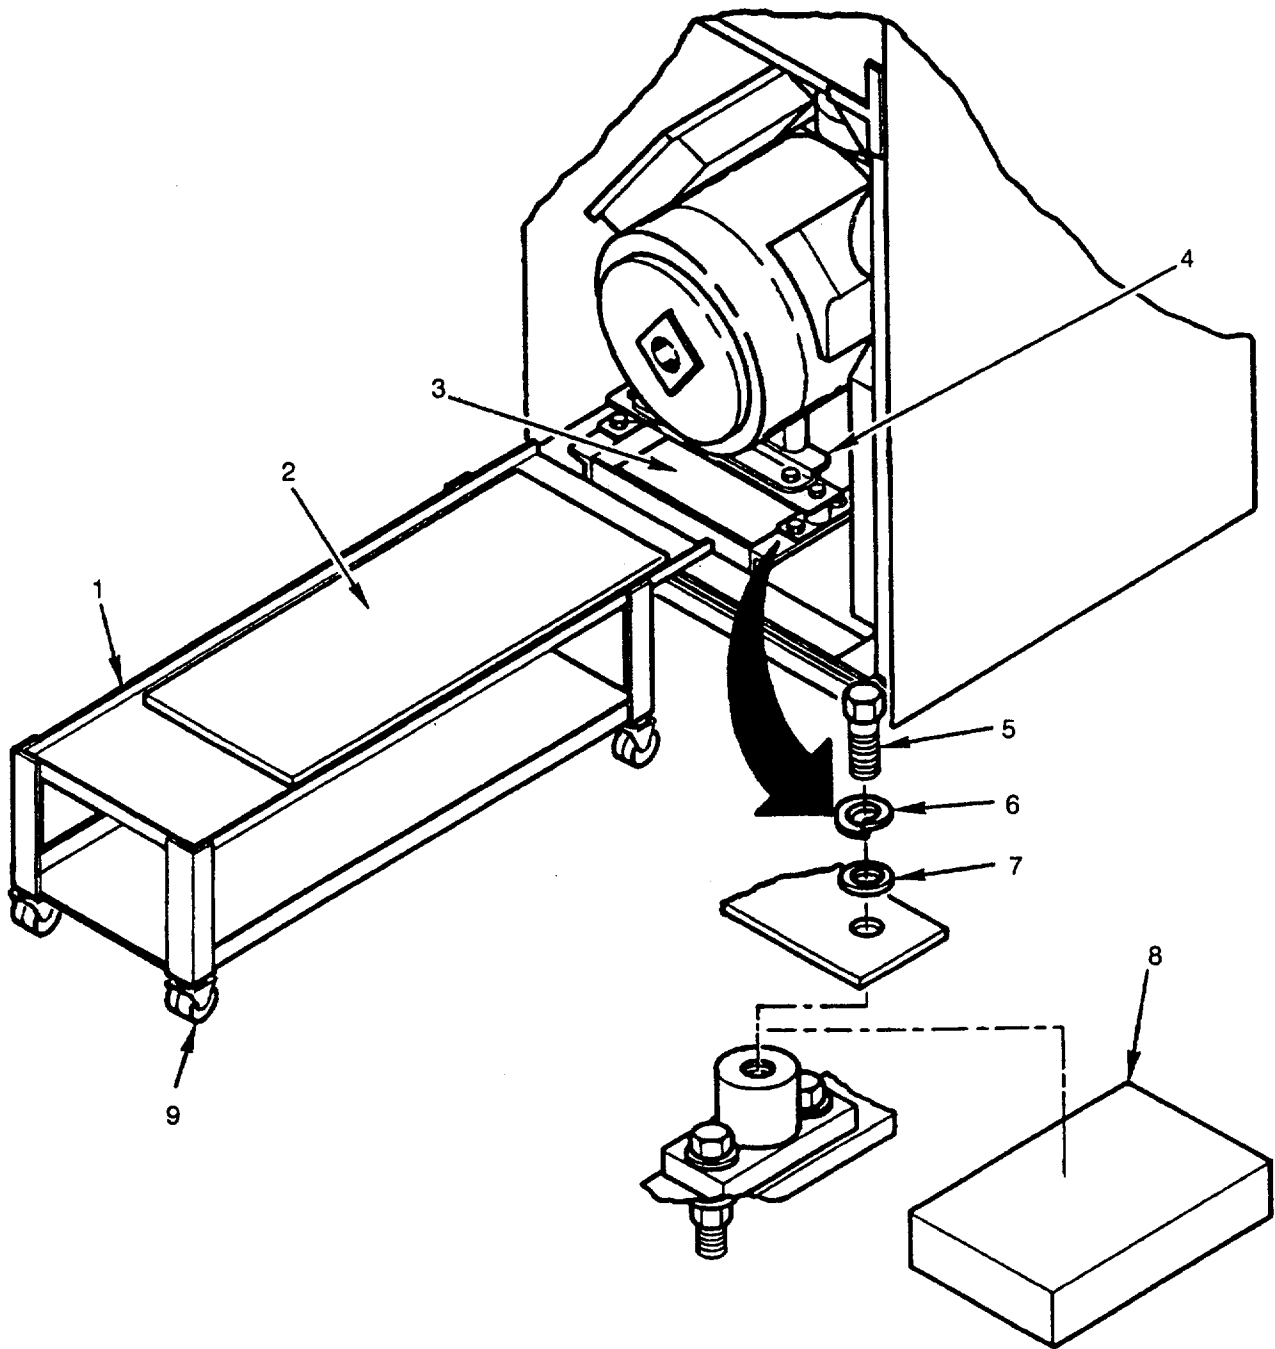

Figure. 5-36. Compressor
9. Remove two rear mounting bolts (5), lockwasher (6), and flat washer (7) (see Figure 5-36).
10. Loosen two front mounting bolts (5).
11. Raise rear of compressor (4).
12. Between compressor and mounting frame, place 3/4 inch shims (8) on both sides.
13. Remove two front mounting bolts (5), lockwashers (6), and flat washers (7).
14. Carefully raise front of compressor (4).
15. Between compressor and mounting frame, place 3/4 inch shims (8) on both sides.
16. Insert slide track (3) beneath compressor (4). Lip on sides of slide track point up, while lip at one end of slide track points down at rear of compressor.
17. Insert compressor slide (2) on slide track (3).